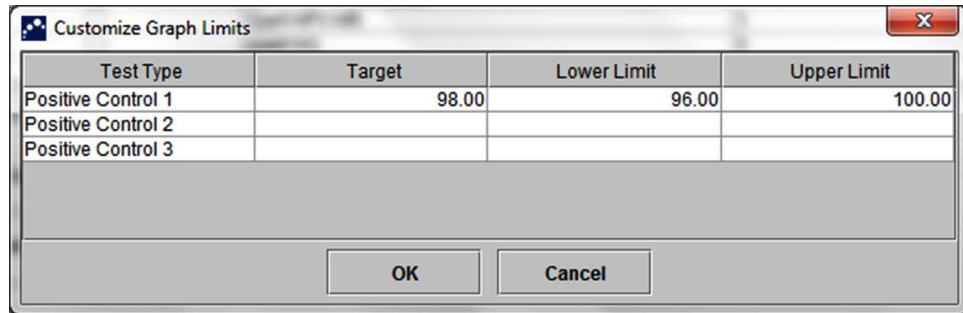

Figure 6-5. Customize Graph Limits Dialog Box
- **Customize Graph Limits** button—Select the data limits to be used for plotting the data. Press the **Customize Graph Limits** button. The Customize Graph Limits dialog box is displayed. See Figure 6-5.